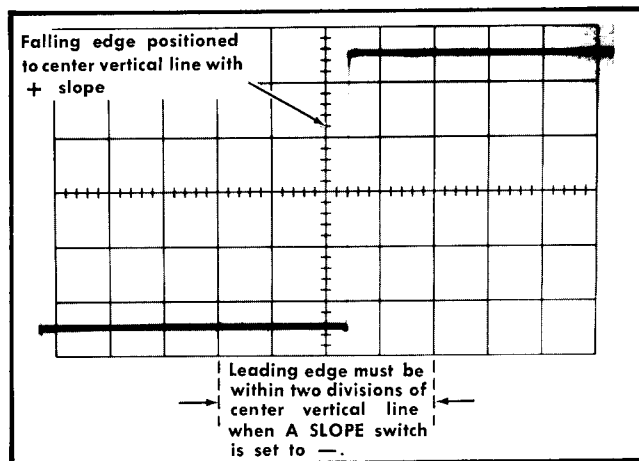

Fig. 5-31. Typical CRT display when checking calibrator duty cycle.
- g. CHECK—50% point on rising edge now displayed not displaced more than two divisions from the center vertical line (duty cycle 49% to 51%; see Fig. 5-31).